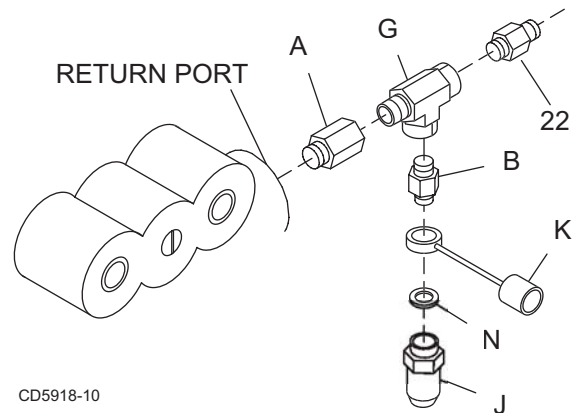

Figure 27 Return Port Fittings Installation
2. Install fittings, quick couplers, dust cap, and colored bands to the hydraulic manifold RETURN port as shown in Figure 27.